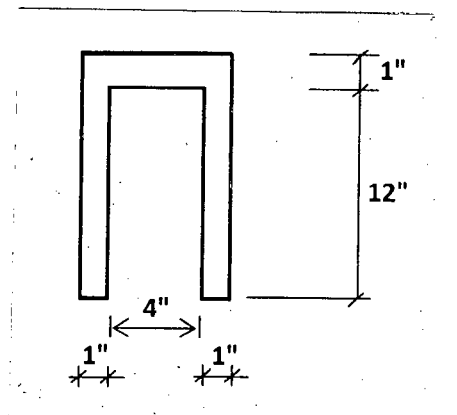

Fig. 11
(b) Compute the yield moment and plastic moment capacities and shape factor for major axis bending of the section shown in Fig. 11. Given $F_y = 50 \text{ ksi}$, (18)